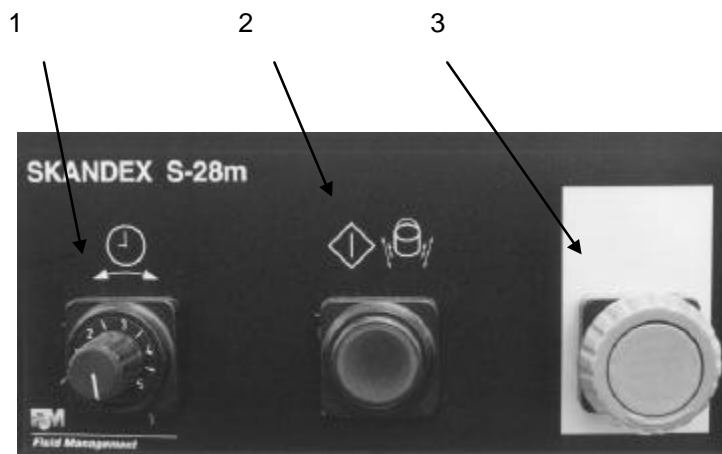

figure 8
- SO-30m : The emergency stop is pushed in (see figure 8, number 3), and the ON/OFF-switch at the back of the machine is in the <O>-position.
5.4.1 Type: SO-30m (Figure 8)